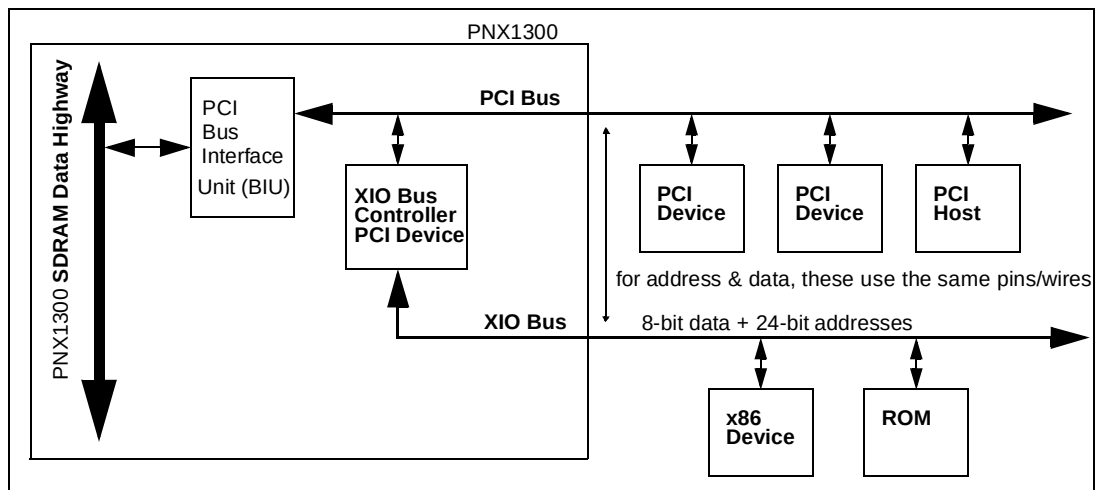
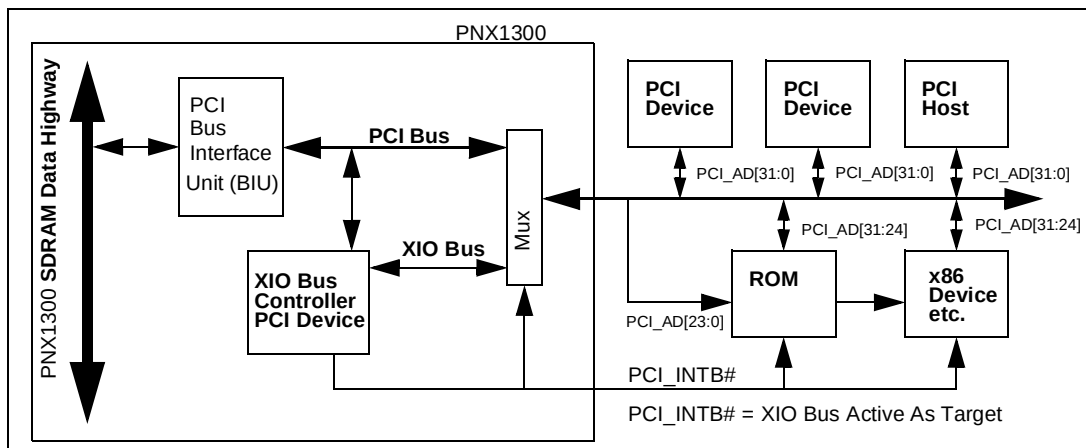

**Figure 22-2. PCI-XIO bus device *CONCEPTUAL* block diagram**
Figure 22-3. PCI-XIO Bus device implementation block diagram
The XIO logic serves as a bridge between the PCI bus and XIO devices such as ROMs, flash EPROMs and I/O device chips. The PNX1300 addresses XIO devices on the PCI-XIO bus in the same way as registers or memory in any other PCI slave device. The XIO logic supplies the PCI\_TRDY# signals to the PCI bus and also supplies the chip-select, read, write and data-strobe signals to XIO devices attached to the PCI-XIO Bus. A *conceptual only* block diagram of the PCI-XIO Bus is shown in Figure 22-2. The real hardware uses the PCI\_AD[0:30] signals and PCI\_C/BE#[0:3] signals for both PCI and XIO devices, as shown in Figure 22-3.
When the XIO-PCI Bus controller logic is activated, it generates PCI\_DEVSEL# as a response to the PCI bus. When PCI\_IRDY# has been received from the BIU, it asserts an external PCI\_INTB# signal as the global chip select. It also reconfigures the PCI address/data pins for 8-bit byte transfers. When the PCI-XIO Bus is active, the lower 24 bits of the external 32-bit PCI bus are used to output a 24-bit address for all transfers, read or write. The upper 8 bits of the external PCI bus are unchanged and transfer data normally. This is shown in Figure 22-3.
**Figure 22-2** shows a *conceptual* block diagram of the PCI-XIO Bus as a slave device on the PCI Bus. The XIO Bus Controller generates an XIO Bus, which is an 8-bit bus with a 24-bit address. Devices attached to the XIO Bus appear as memory locations in the 16 MB address space of the XIO Bus.
**Figure 22-3** shows an implementation block diagram of the PCI\_XIO Bus. To conserve pins, the XIO Bus Controller uses the PCI I/O pins as XIO Bus pins during XIO Bus data transfers. It reconfigures the 32 PCI address/data pins as 8 XIO Bus data pins and 24 XIO Bus address pins, and it reconfigures the byte enable pins as XIO Bus timing signals. By changing the functions of the pins during the transfer, 36 pins are saved which would otherwise be required to drive the XIO Bus devices. By reconfiguring the PCI pins only during the data phase of the XIO Bus transfers, the PCI-XIO bus retains its PCI Bus compatibility.